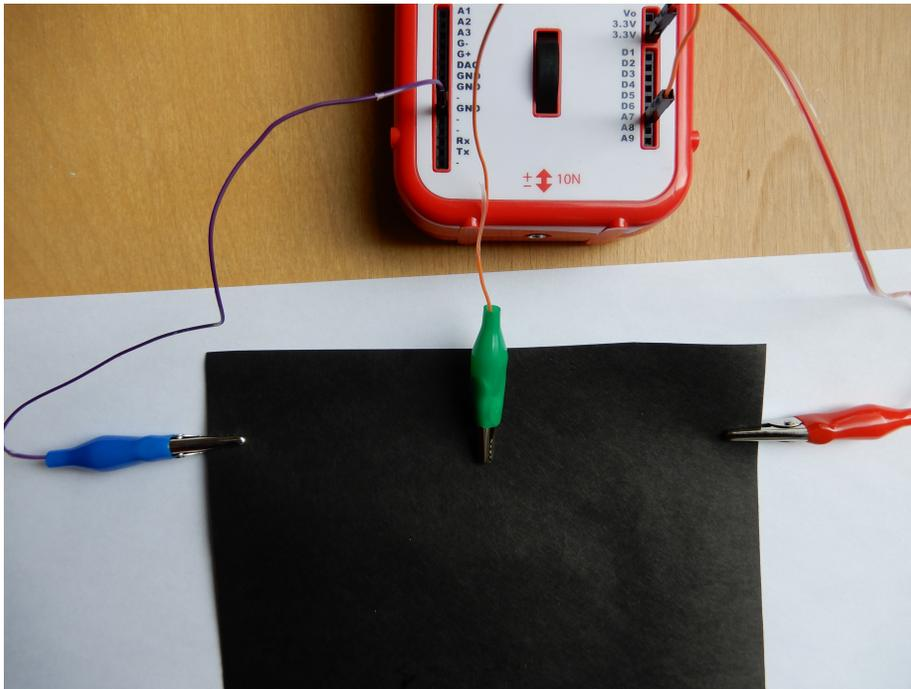

Figure 2: Experimental setup to test the conductivity of the paper
- your setup should now look like Figure 2